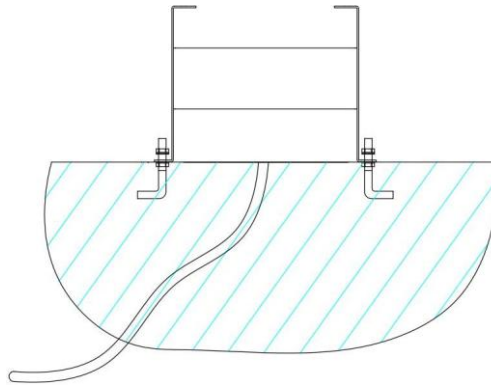

Figure 10
- Place the mounting base and secure it as shown in Figure 10.